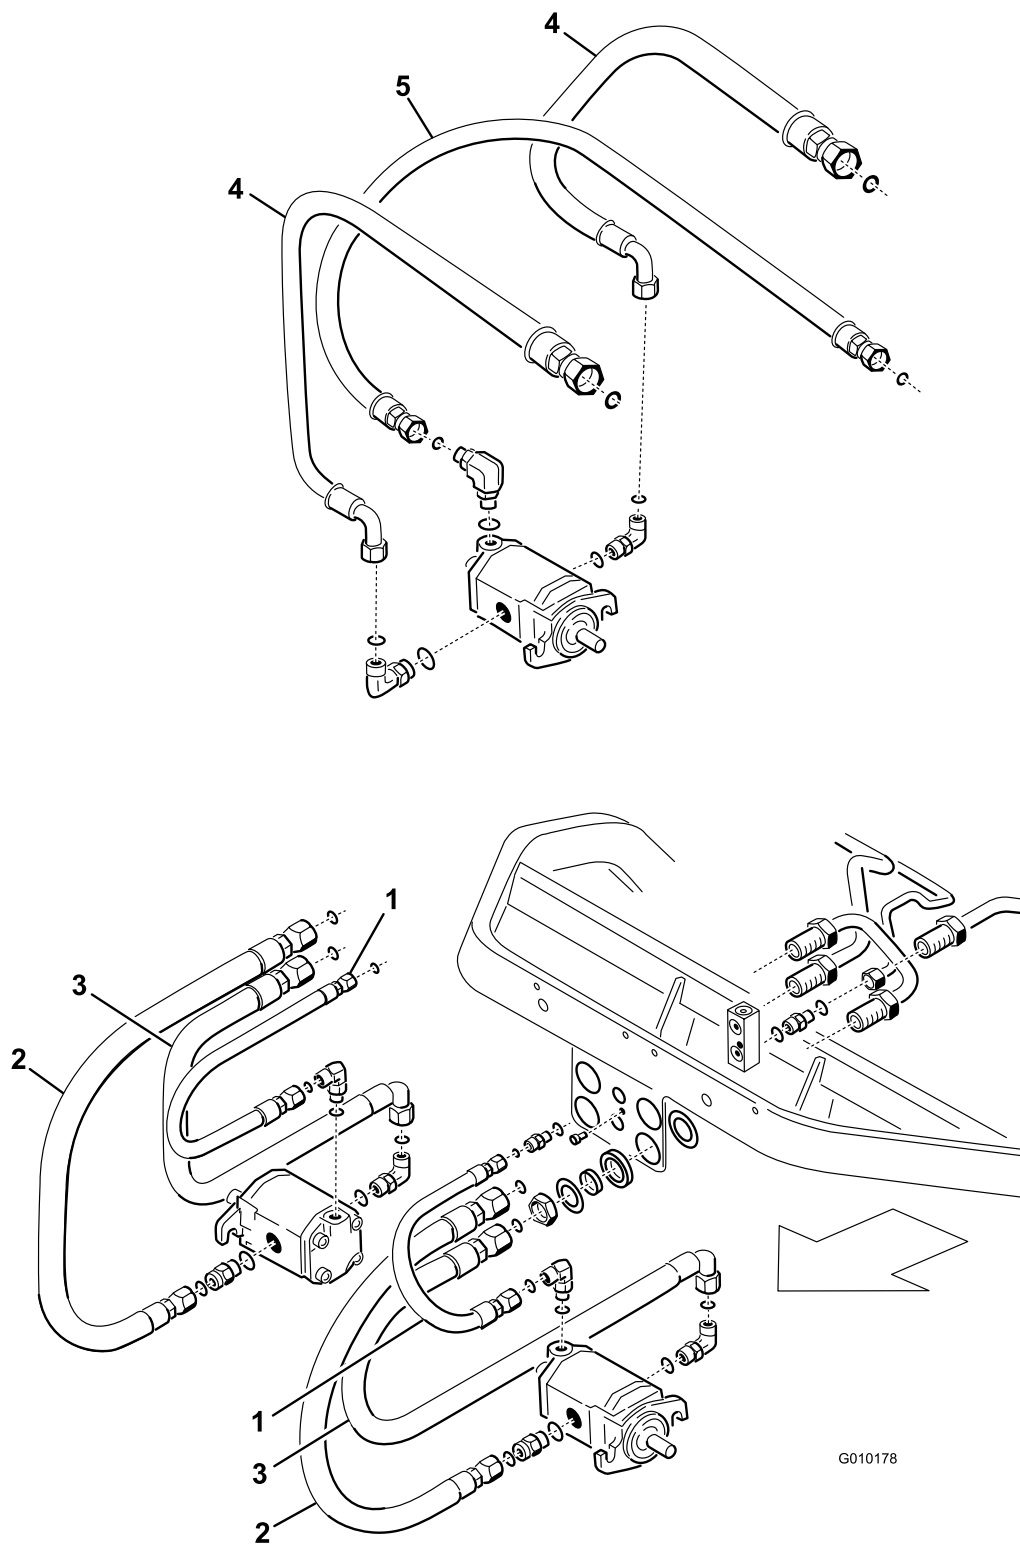

Figure 1
1. Locate and remove the hoses to be replaced as shown in Figure 1.
2. Replace the old hoses and O-rings with the appropriate new ones. The part number of each new hose is shown in Figure 1.